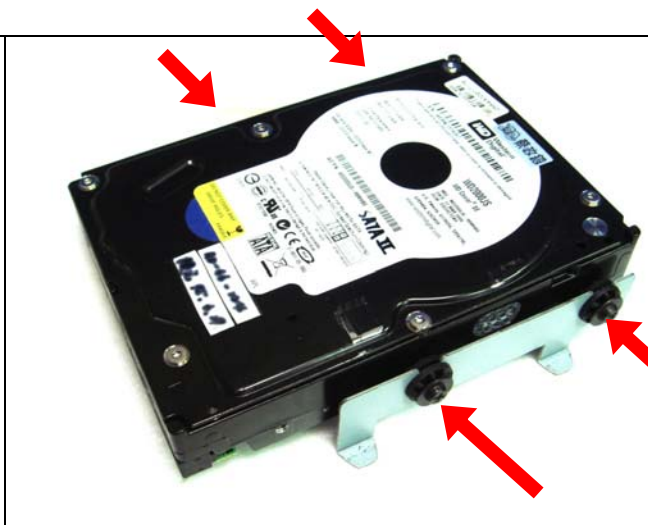

**Fig. 8-2** Restore the battery
2. Replace it with a new one by pressing the battery with fingertip to restore the battery (**Fig. 8-2**).